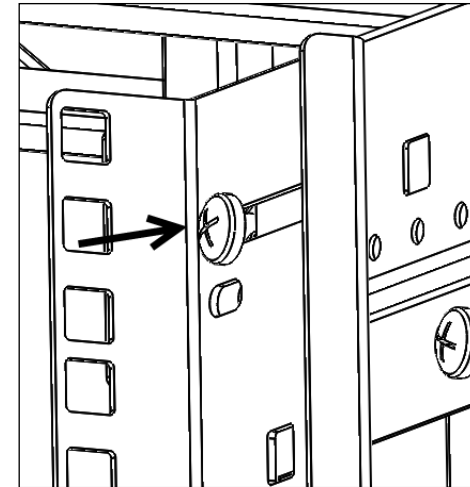
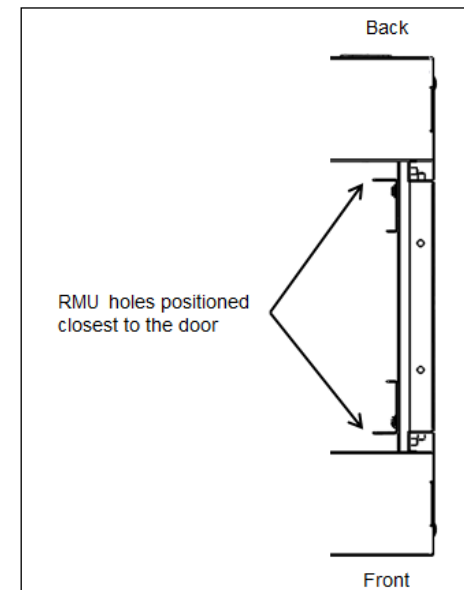

Figure 4
Figure 5
3. Position equipment mounting rail and fasten by inserting screws into cage nuts (Figure 4). RMU holes should be positioned closest to the door as shown in Figure 5.